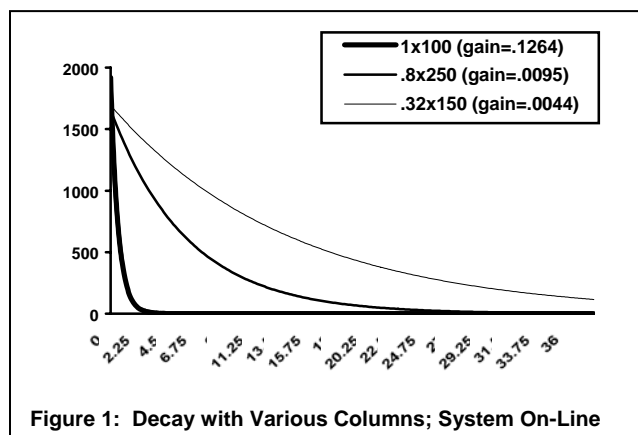

Figure 1: Decay with Various Columns; System On-Line
Figure 1 illustrates an experiment using a binary gradient  $\mu$ Pro system with 2mL syringes, a 15 $\mu$ L mixer, connecting tubing and an additional pressure transducer. The data indicates the required time for the system pressure to decay varies from approximately 4 minutes (with a 1mm x 100cm column) to 40 minutes (with a .32mm x 150cm column).
- Add a series of steps at the end of the method to run the system at a nominal flow rate until the system, including syringes is depressurized. The disadvantage of this way of dealing with the pressure difference is this can take a significant amount of time, depending on system volumes and pressure, as illustrated in Figure 1.